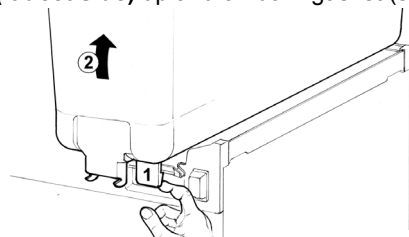

figure 3
- 2** Remove the empty bowl by lifting pulling lever (1) and its front side (faucet side) up and off bowl gasket (see figure 3).